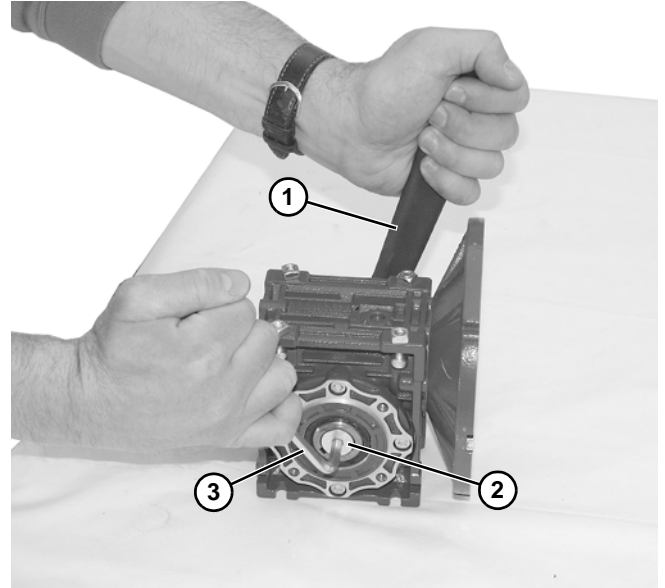

Figure 28
1. Hold the driveshaft with a wrench (**Figure 28, item 1**) as shown to keep shaft from turning, while removing screw (**Figure 28, item 2**) with hex wrench (**Figure 28, item 3**).
6. Hold the driveshaft with a wrench (Figure 28, item 1) as shown to keep shaft from turning, while installing screw with hex wrench (Figure 28, item 3). Tighten screw to 100 in-lb (11.5 Nm) for 42CZ or 350 in-lb (39.5 Nm) for 56C, 63B5 and 71B5.